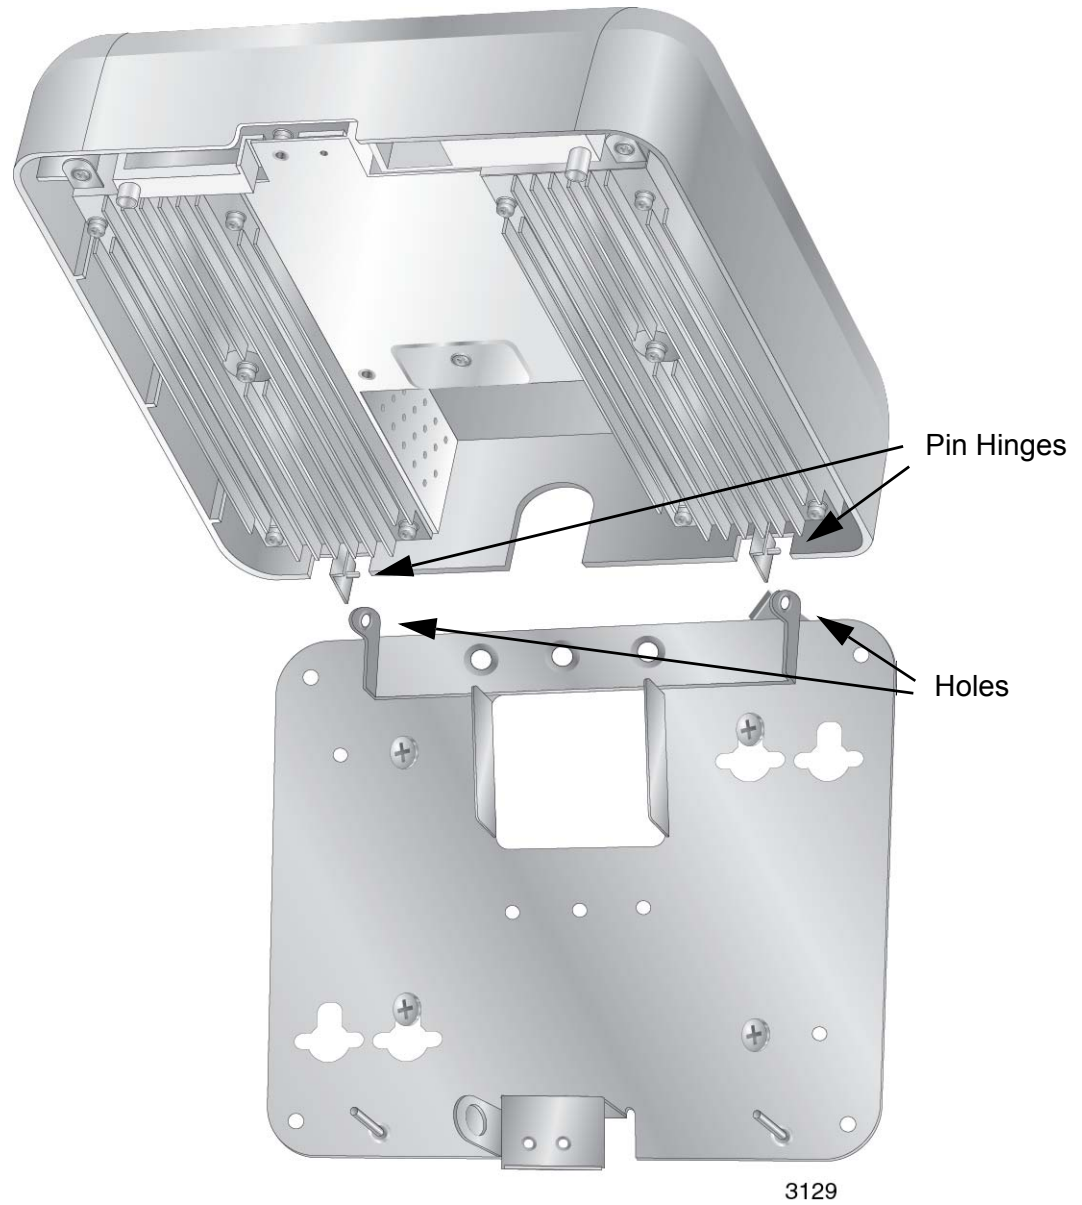

Figure 19. Installing the Access Point on the Bottom Panel
1. Carefully lift the access point and slide the pin hinges into the holes on the bottom panel. Refer to Figure 19 on page 43.